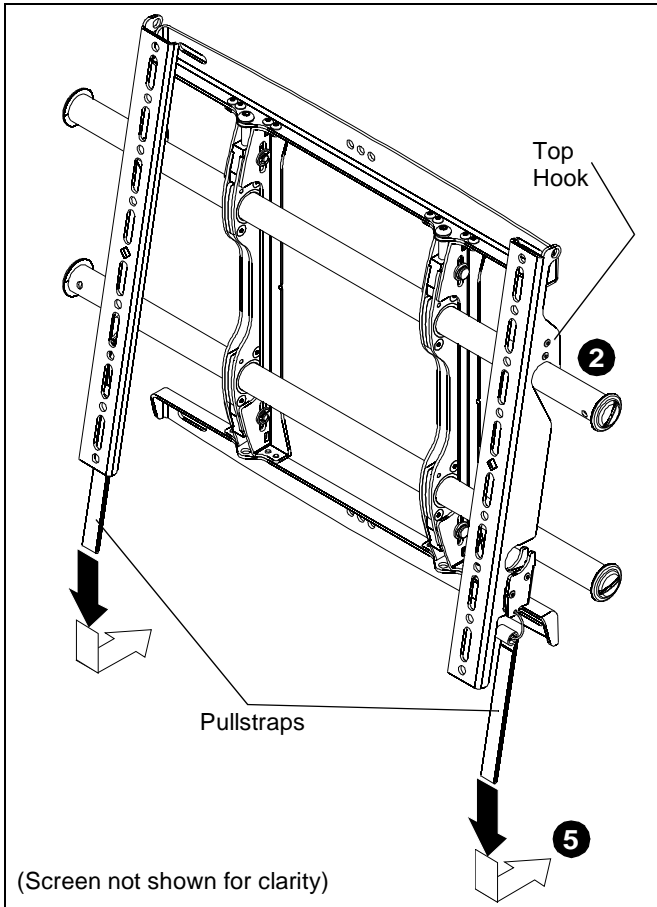

Figure 9
2. Hang top hook of interface brackets onto the top bar of the mount. (See Figure 9)
5. Pull downward on the pullstraps and swing inward toward wall, latching interface brackets to lower bar and locking bottom of screen to the mount. (See Figure 9)